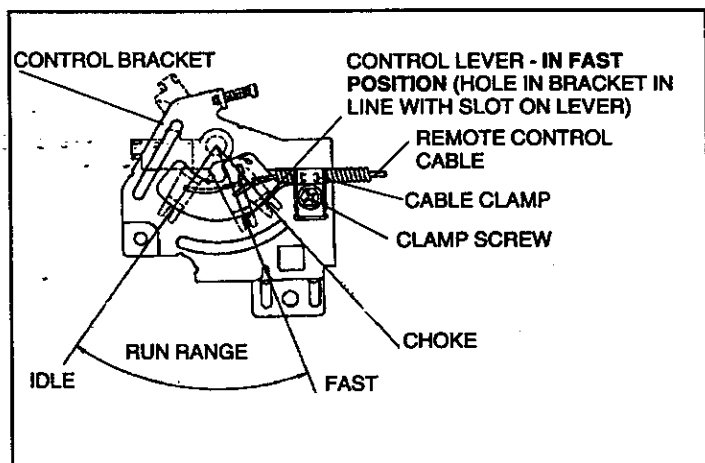

Figure 7
### ② REMOTE CONTROL (see Figure 7):